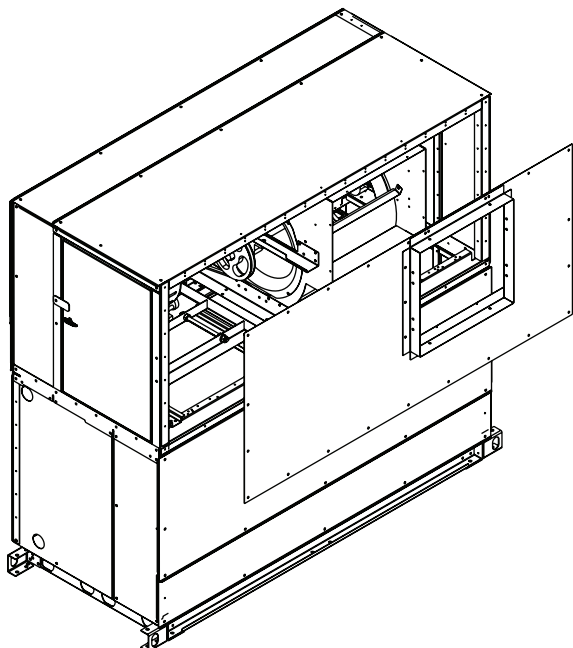

Fig. 56 — Remove Fan Discharge Panel
1. Disconnect the fan discharge by removing the screws from the discharge of the fan housing. Remove the fan discharge panel (Fig. 56).